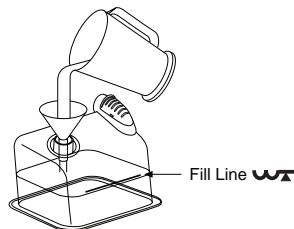

FIGURE 3-7 FILLING THE WATER CHAMBER
3. Before each use, rinse the chamber with water. Fill the chamber to the fill line with distilled water using the funnel, as shown in Figure 3-7.